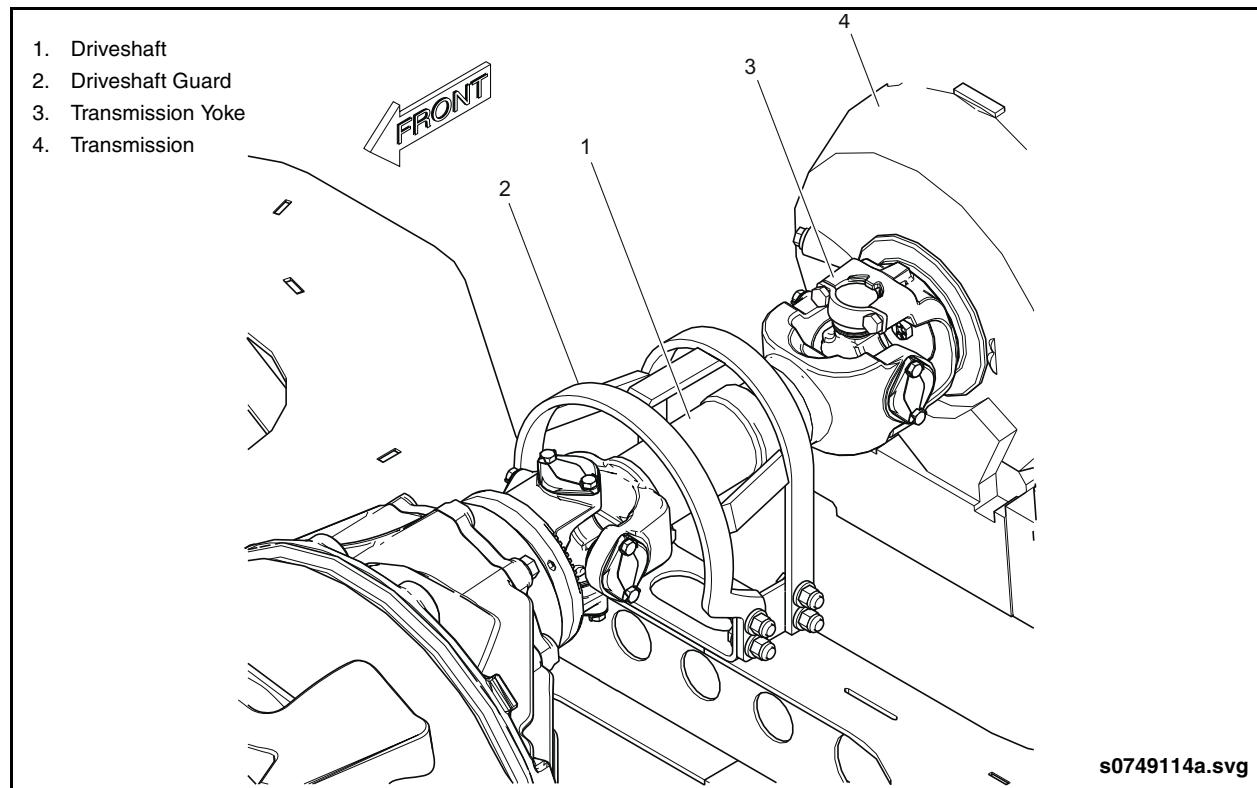

Fig. 4-4: Disconnecting the Driveshaft
20. Underneath the vehicle in the transmission area, disconnect the driveshaft from the transmission. Allow the driveshaft to hang onto the rear axle bunk. See “Fig. 4-4: Disconnecting the Driveshaft” on page 8.